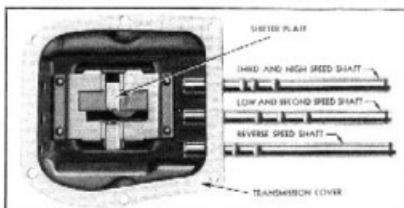

Fig. 22—Shifter Shaft Assembly
- In reassembling the transmission cover, care must be used in installing the shifter shafts. They should be installed in the order shown in Fig. 22, namely reverse speed, low speed and high speed.